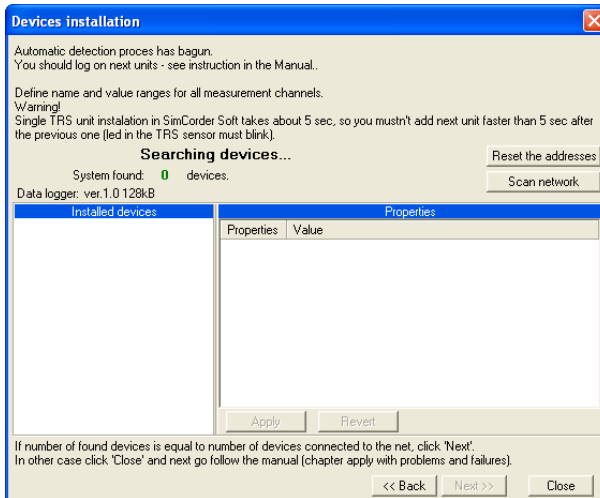

Figure 3.5. Scanning network for devices - before detection of any device.
10. After defining the communications port, go to device detection screen (Figure 3.5) by clicking on the **[Next>>]** button.